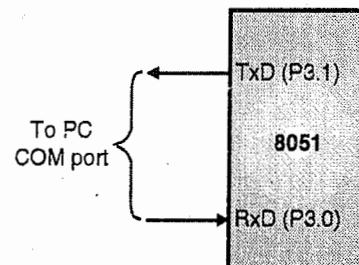

Fig. P. 1.23.9 : Connections between 8051 and PC
**Soln. :** Fig. P. 1.23.9 shows the connections between 8051 and PC.